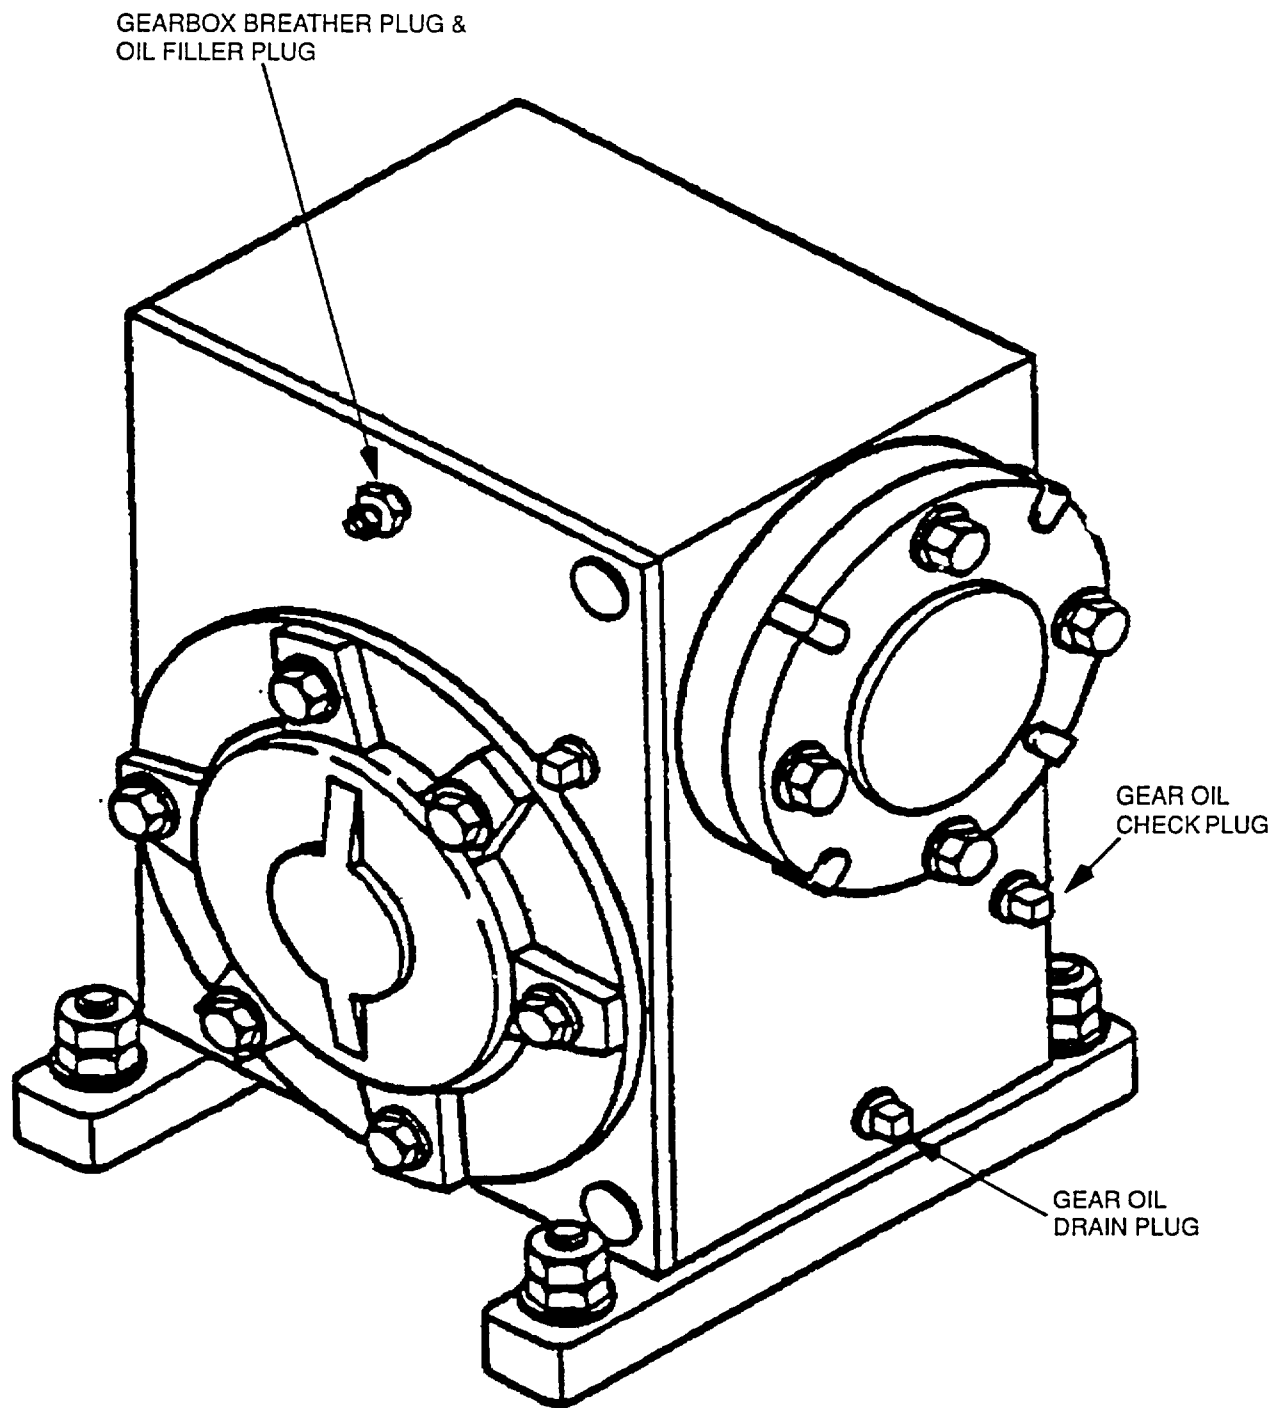

Figure 16-9. Servicing Points on Anchor Winch Gear Motor Reduction Box
- (1) Eight grease fittings on fairleader (two on each of four rollers).
- (2) Eleven grease fittings on levelwind traveler (two on each of four rollers and three on top of Bare 1 traveler). On barges 2 and 3, traveler has four fittings on top instead of three.
- (3) One grease fitting on gear case (outboard) side.
- (4) Two grease fittings on brake (inboard) side (one on levelwind release mechanism, one on water end of cover on levelwind gears).
- (5) Three fittings on inside shaft behind the manual/power selector.
- (6) Levelwind compound helix shaft and guide bars.
- f. Check oil level in gear motor reduction box (see Figure 16-9).
- g. Check oil level in gear case on outer side on winch (see Figure 16-9).
- (1) Unscrew oil level plug just below center line of gear case. Oil should be level with bottom of hole.
- (2) Remove gear lube access plate above oil level check hole.
- (3) Add 90 weight gear oil until it runs out of hole.
- (4) Replace oil level plug in hole.
- (5) Replace access plate.